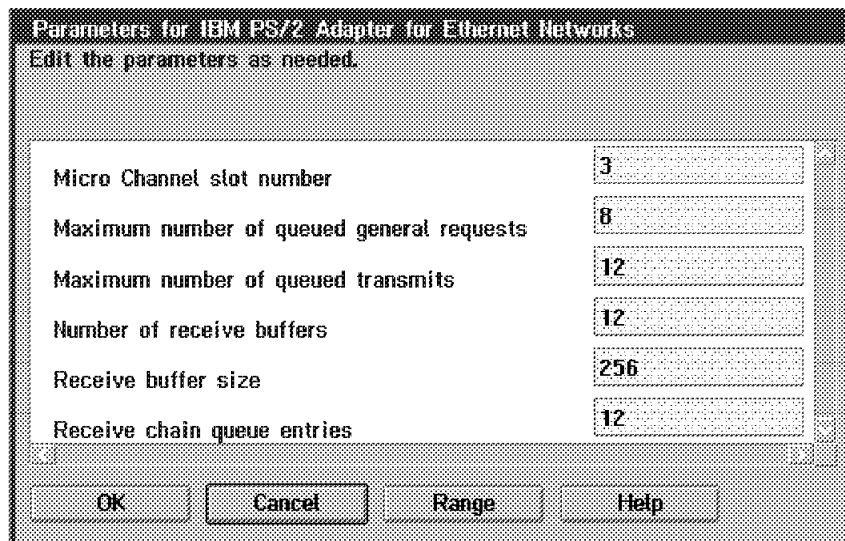

Figure 113. Edit Adapter Parameters for Workstation LAN Adapter (Ethernet)
Step 2. In the Edit Adapter Parameters window, enter the Micro Channel slot number where the workstation Ethernet adapter is installed. For the ITSO setup, enter 3 in the Micro Channel Slot Number field as shown in Figure 113. Leave all other parameters at their default values.